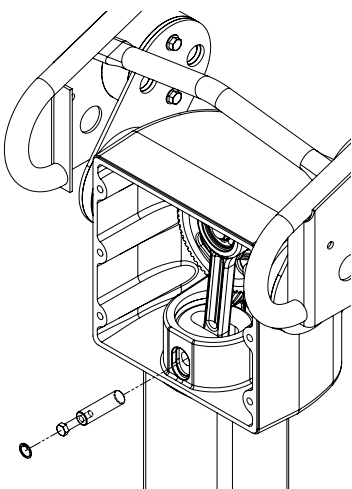

Fig 1
4. Remove the retaining ring (#7) from piston. Thread a 5/16-18 screw into the piston pin (#6) and remove the piston pin. (See Fig 1)